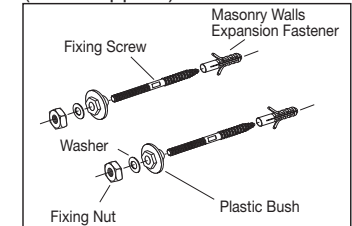

Fig. 2
- 3- Insert expansion fasteners into the drilled holes in masonry wall. The Fixing Screws, should be screwed into the wall using the flat section of the Fixing Screw, with a spanner as shown in Fig. 2. Allow 48 mm of thread to protrude from the finished wall.